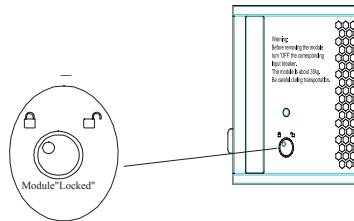

Fig. 7-3
2) Check the position locks located on the front panel of the installed UPS modules. Make sure that all of them are in the “” position (see Fig. 7-3).